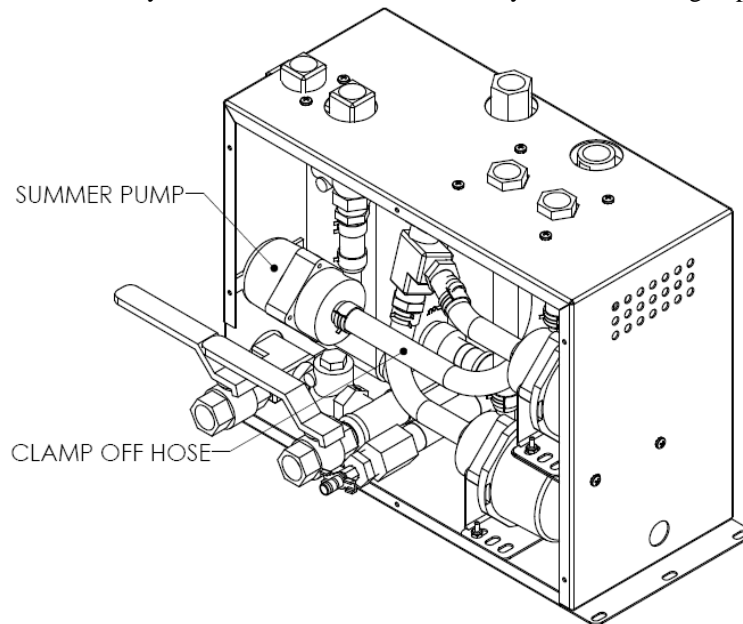

Figure 25: Summer Pump replacement
3. Locate the summer pump as shown in Figure 25